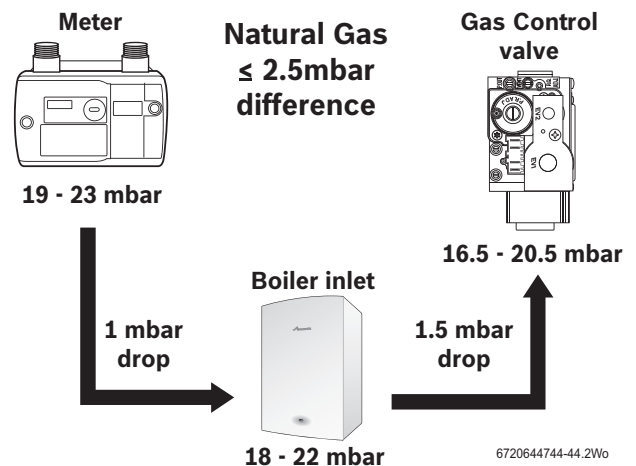
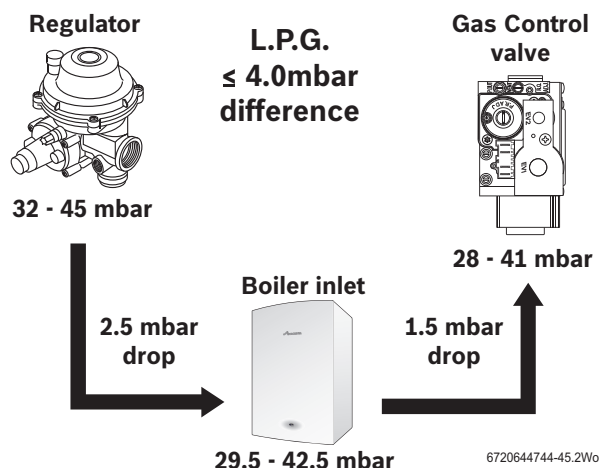

Fig. 54 Natural gas pressures
Fig. 55 L.P.G. pressures
- ▶ Check the gas supply working pressure at the gas valve conforms to values shown in Fig. 54 or Fig. 55.